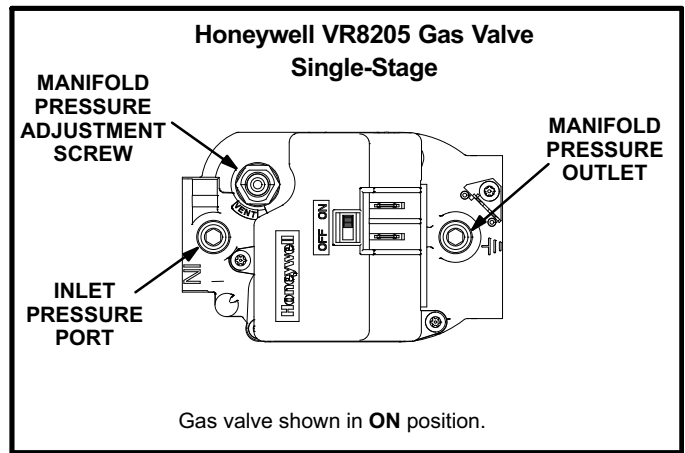

FIGURE 14
The gas valve is adjustable for both low fire and high fire. Figures 14 and 15 show gas valve components. Table 7 shows factory gas valve regulation pressures.
Gas Valve Operation (figure 14 and 15)
- 5- Move gas valve switch to **OFF**. See figure 14 or 15.
- 6- Wait five (5) minutes to clear out any gas. If you then smell gas, **STOP!** Immediately call your gas supplier from a neighbor's phone. Follow the gas supplier's instructions. If you do not smell gas, go to the next step.
- 7- Move gas valve switch to **ON**. See figure 14 or 15.